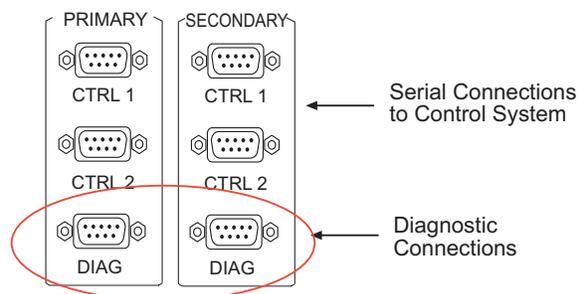

Figure 3-24. Diagnostic Connections (Rear View)
- 1 Locate the diagnostic connections on the rear of the router, as shown in Figure 3-24. The diagnostic connections are labeled ‘DIAG’.